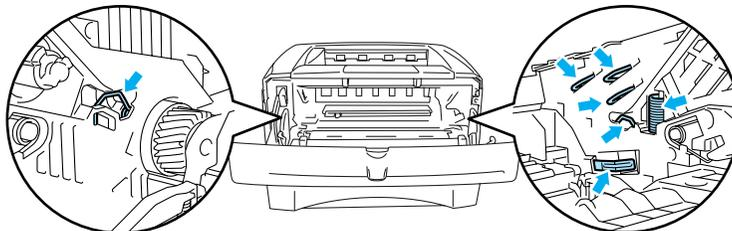

Figure 5-17
- To prevent damage to the printer from static electricity, do not touch the electrodes shown in Figure 5-17.